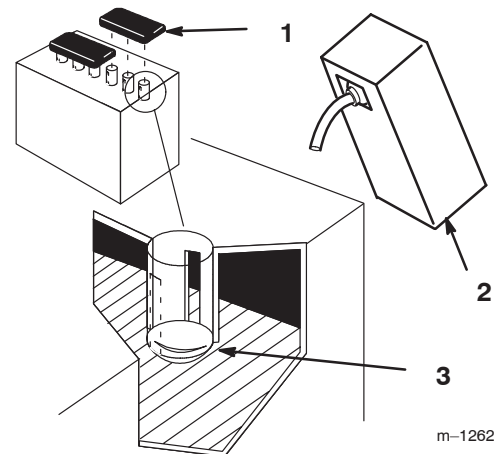

Figure 6
2. Remove filler caps from the battery. Slowly pour electrolyte into each cell until the electrolyte level is up to the lower part of the tube (Fig. 6).
5. Slowly pour electrolyte into each cell until the level is once again up to the upper line on the battery case (Fig. 6) and install covers.